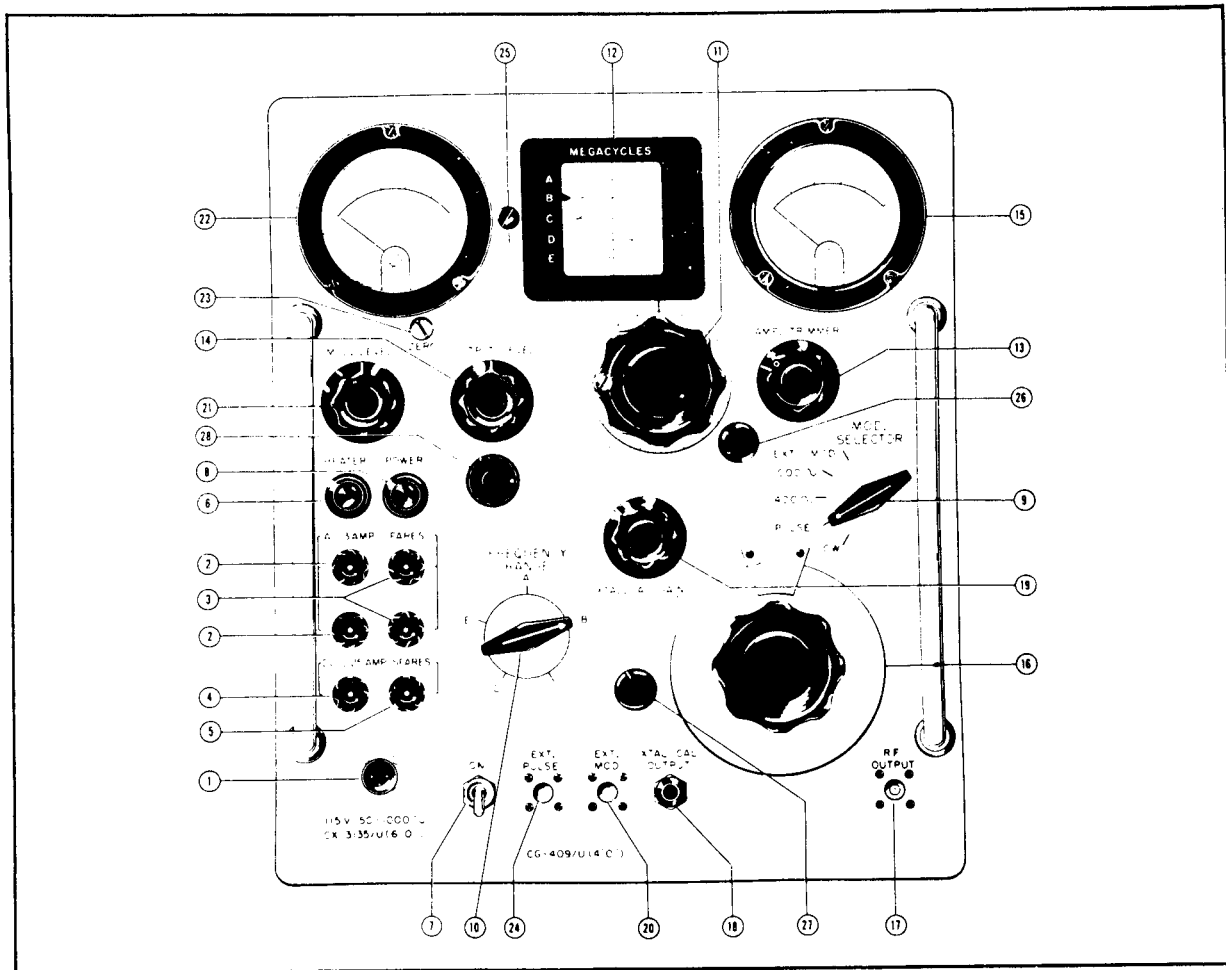
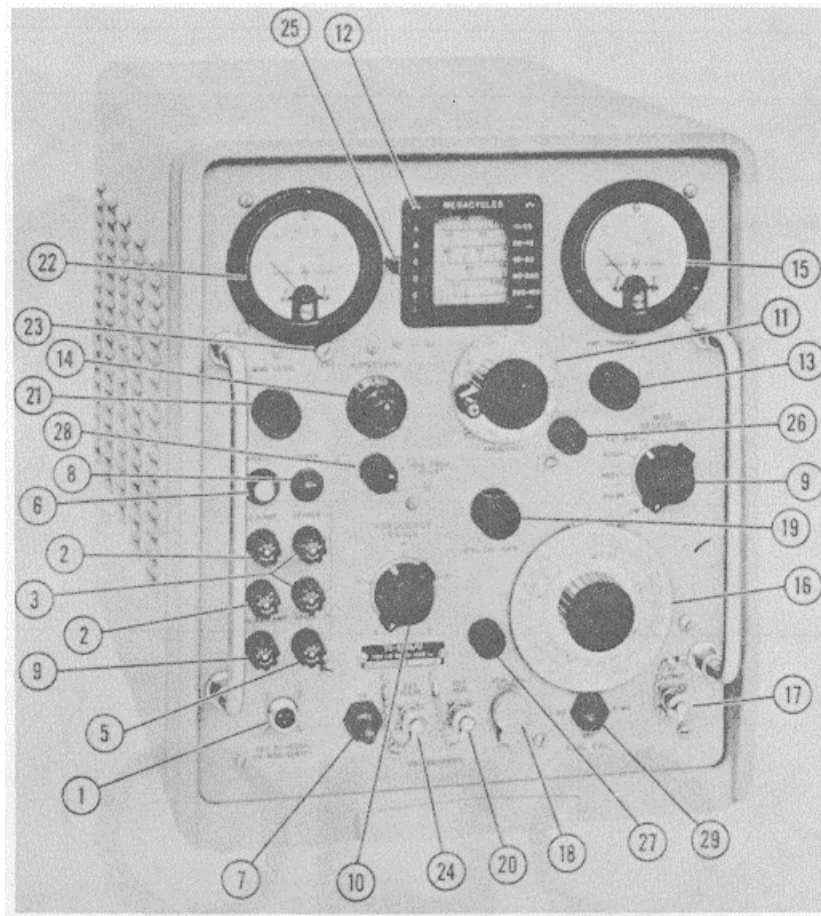
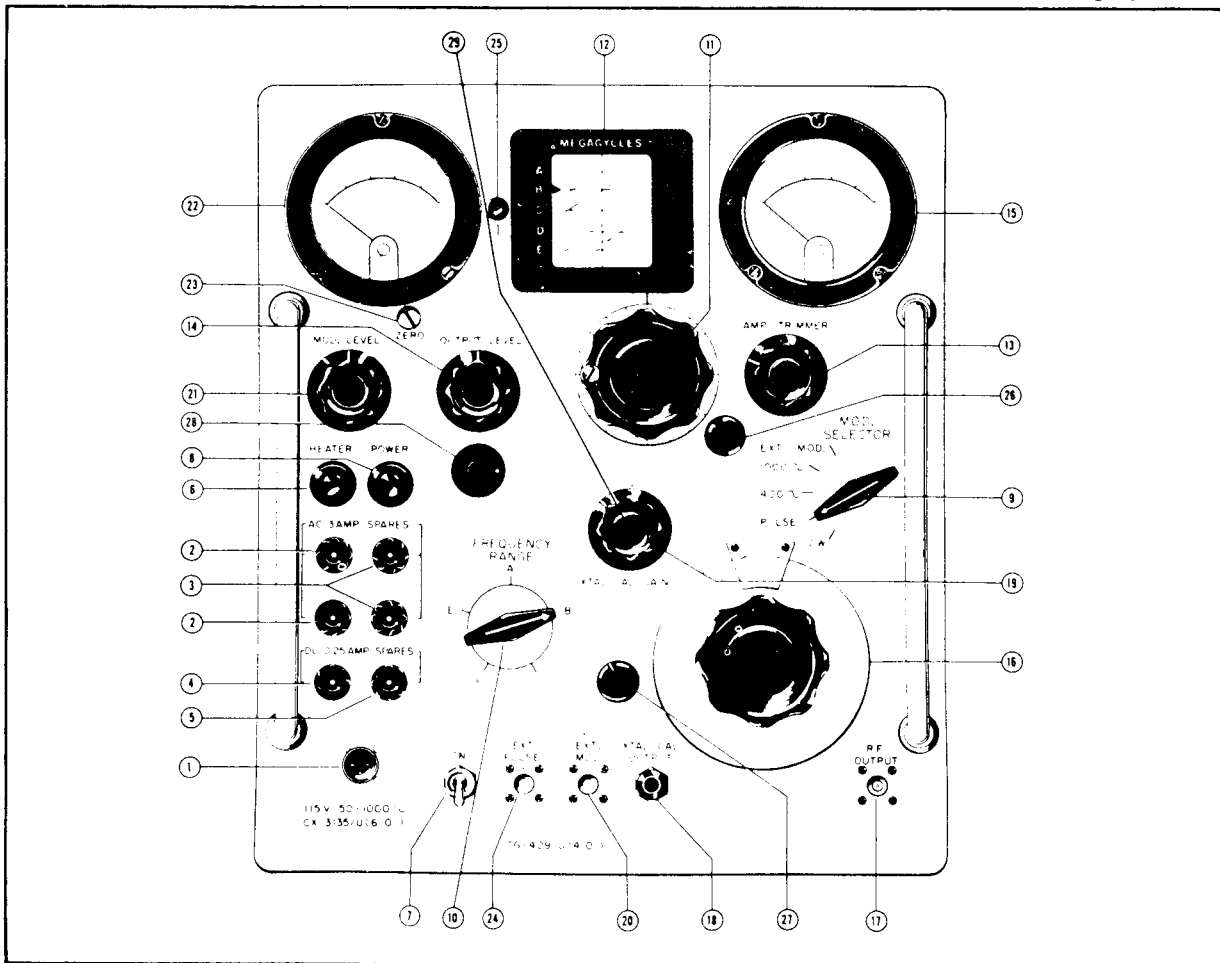
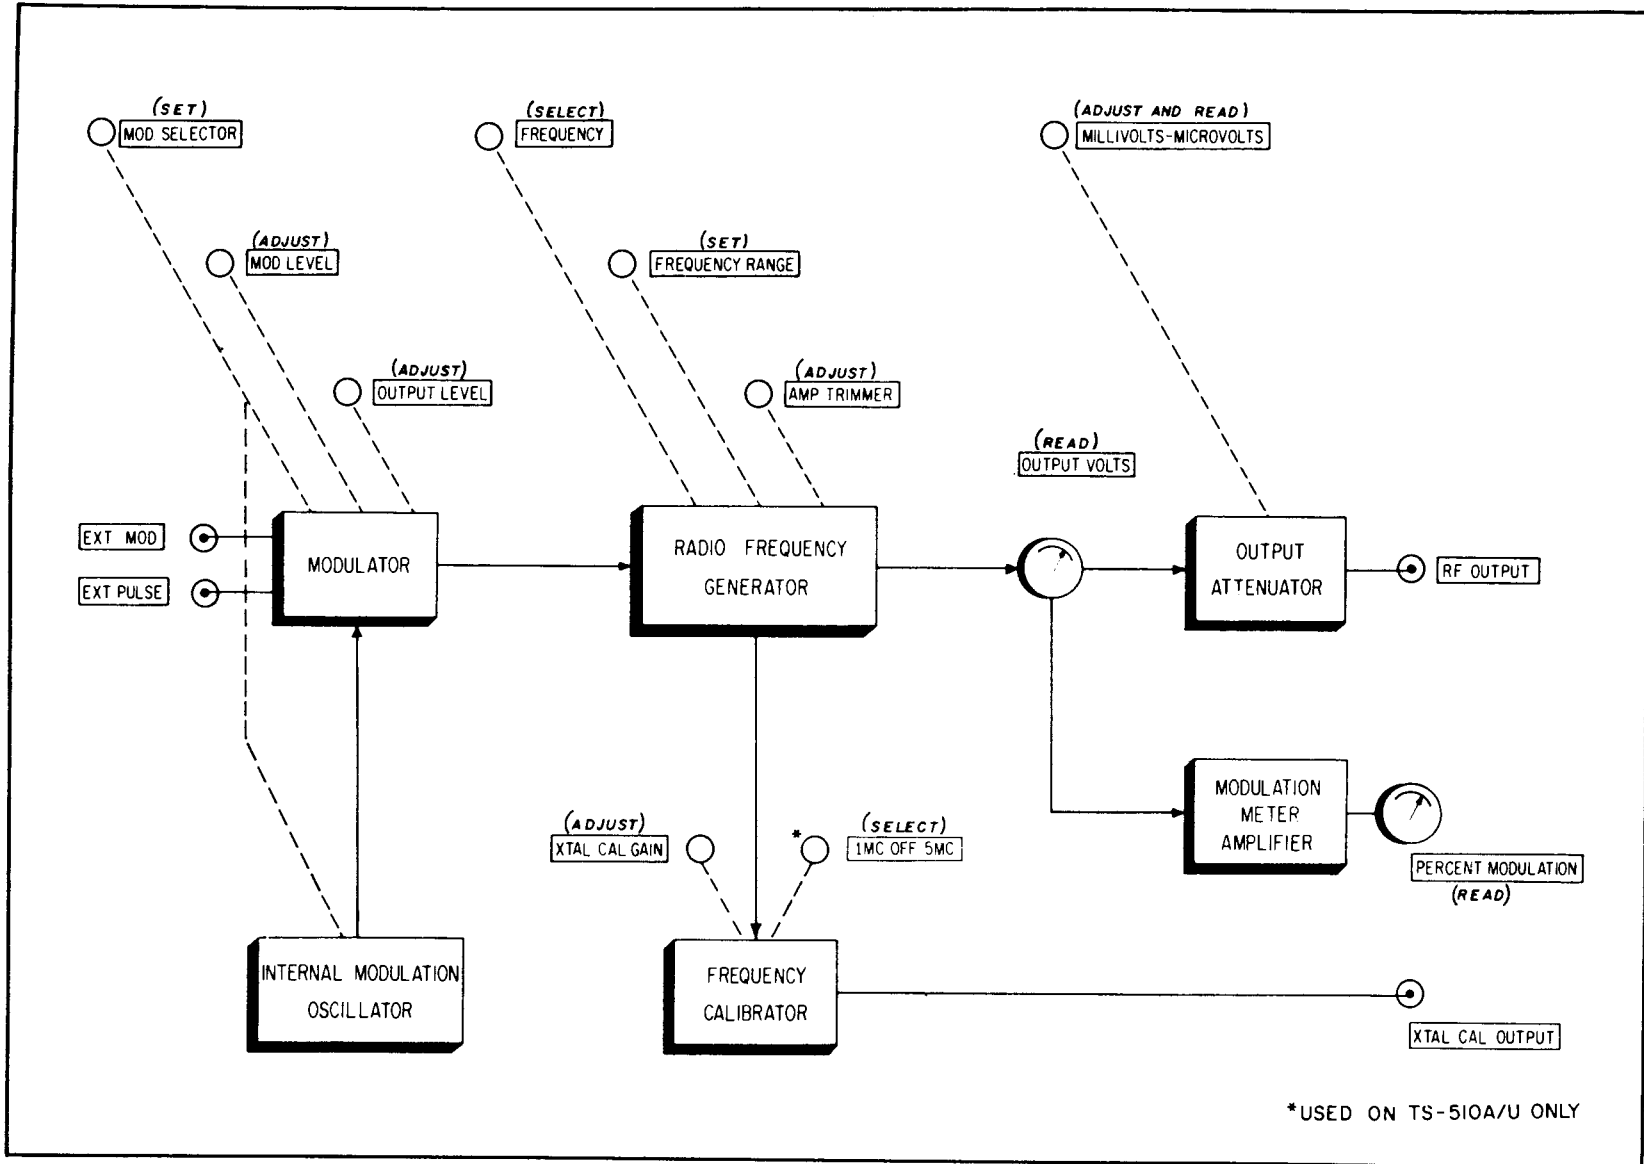

Figure 2-1. Signal Generator TS-510/U (Hewlett-Packard) Front Panel Controls
Figure 2-2. Signal Generator TS-510At/U (Hewlett-Packard) Front Panel Controls
Figure 2-3. Signal Generator TS-510A 'U (Nuclear Electronics) Front Panel Controls
Figure 2-4. Diagram Showing Relationships of Front Panel Controls to Major Circuits
1-32. FINE FREQ. ADJUST CONTROL. Beginning with serial number 510, the TS-510/U Signal Generators are equipped with a short range incremental tuning device for making extremely small changes in the output signal frequency. The FINE FREQ. ADJUST control is operated by an additional knob on the front panel and provides from 0.01 to 0.2% adjustment in the output frequency after selection by the main frequency control dial. The addition of the FINE FREQ. ADJUST control does not alter the circuit, operation, or specifications for the signal generator. The FINE FREQ. ADJUST control is illustrated in figures 2-2 and 2-3, item 28.
1-35. OUTPUT ATTENUATOR CONTROL, TS-510/U AND TS-510A,U(*). (See figures 2-1 and 2-2.) The accuracy of the attenuator dial is within ± 2 decibels for all conditions of operation at rated load.
1-36. OUTPUT ATTENUATOR CONTROL, TS510A/U().** (See figure 2-3.) The accuracy of the attenuator dial is within ± 1 decibel for all conditions of operation at rated load.
2-8. The front panel operating controls, dials, and terminals for the TS-510/U and the TS-510A/U are listed with their functions in Table III and are shown in figures 2-1, 2-2, 2-3, and 2-4. Figure 2-1 shows the front panel layout for the TS-510/U, figure 2-2 shows the front panel layout for the TS-510A/U(*), and figure 2-3 shows the front panel layout for the TS-510A/U(**). A simple block diagram showing which circuits in the signal generator are affected by the various front panel controls is shown in figure 2-4.